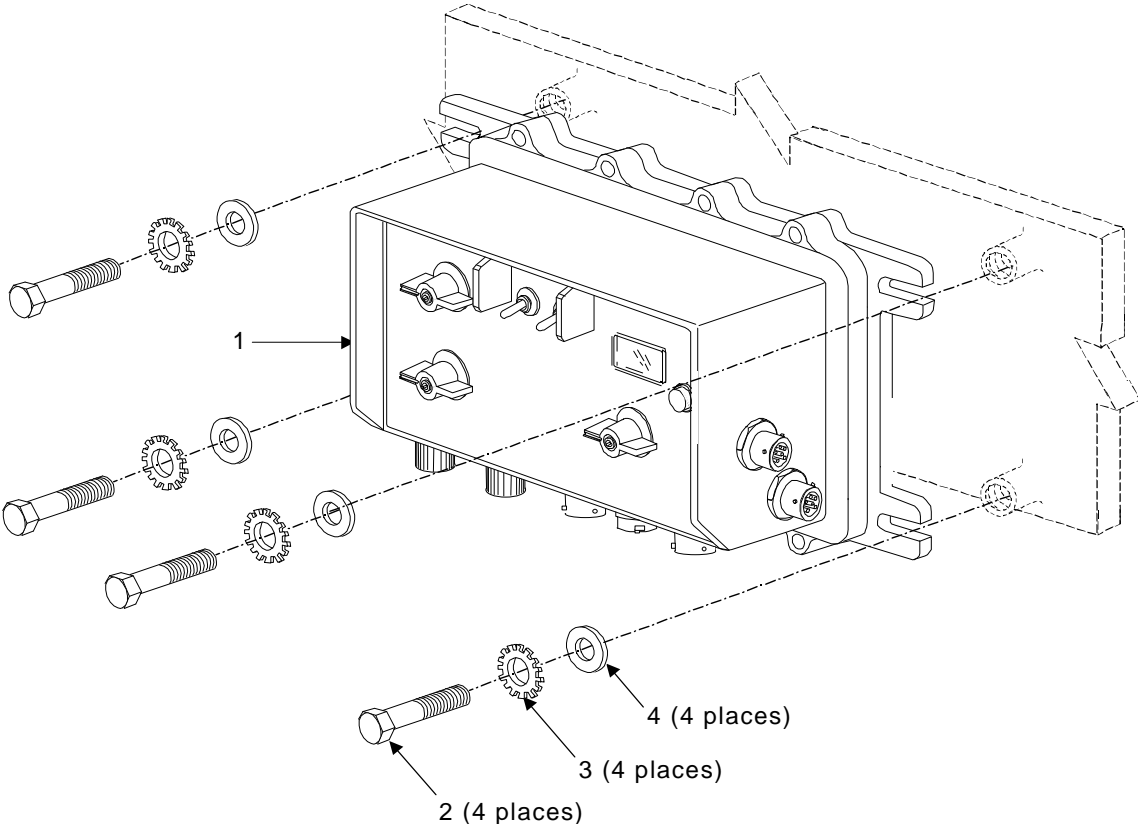

Figure 4-3. MCS Installation
- a. Install and secure the MCS to the roadside cab wall in the sequence(s) shown in Figure 4-3 using the parts listed in Table 4-1 and the following tools: